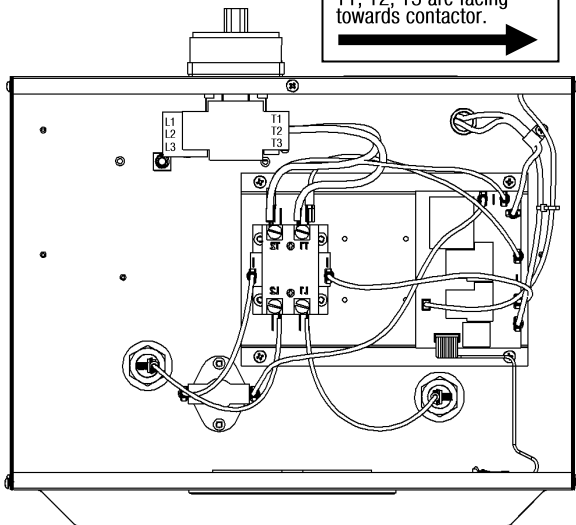

FIGURE 2.
- 6.) Connect the lead wires on the switch, marked T1-T2-T3 to the contactor lugs marked L1-L2-L3. **See Figure 2.** (Note: For single phase units remove center lead wire marked L2).